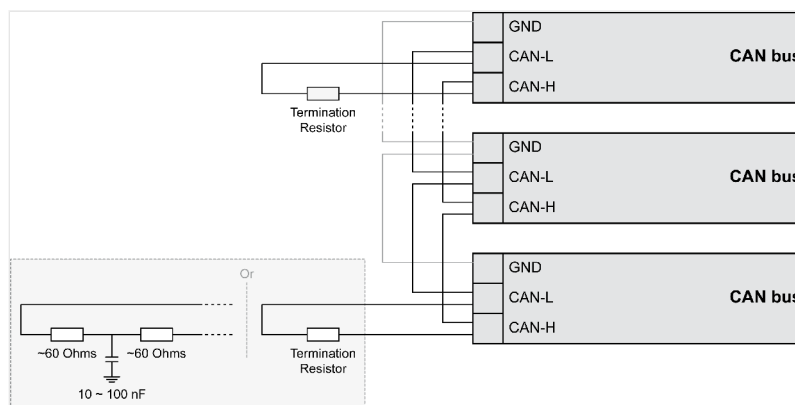

Fig. 66: CAN bus - termination
The termination resistor is connected between CAN-H and CAN-L (➡ Fig. 66).
- Divide the termination resistance into 2x60 Ohms with a center tap connected to ground via a capacitor of 10 to 100 nF (➡ Fig. 66).